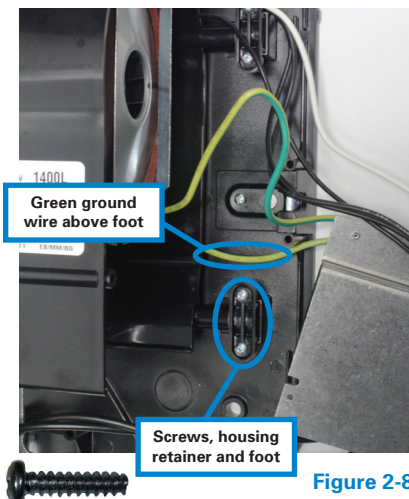

Figure 2-8
Step 2-5. Remove the **two (2)** screws holding the bottom right housing retainer. (Figure 2-8)